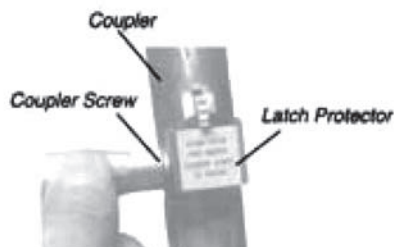

Figure 13
4. When the two tube halves are locked together, slide the latch protector into groove of latch, then tighten the couper screw. See Figure 13.